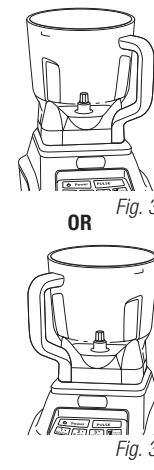

Fig. 3a
- 5 The pitcher can be placed on the motor base two ways; the handle can be on the front right corner or the front left corner. (Fig. 3a, Fig. 3b)
- 5 The bowl can be placed on the motor base two ways; the handle can be on the front right corner or the front left corner. (Fig. 3a, Fig. 3b)